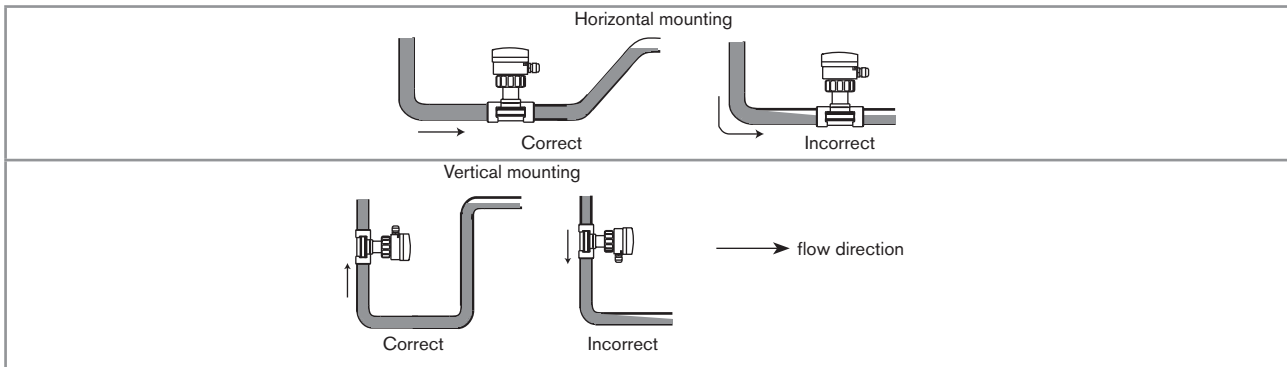

Fig. 5 : Filling of the pipe
- Ensure that the pipe is always filled in the section around the device (see Fig. 5).
- When mounting vertically ensure that the flow direction is in an upward direction (see Fig. 5).